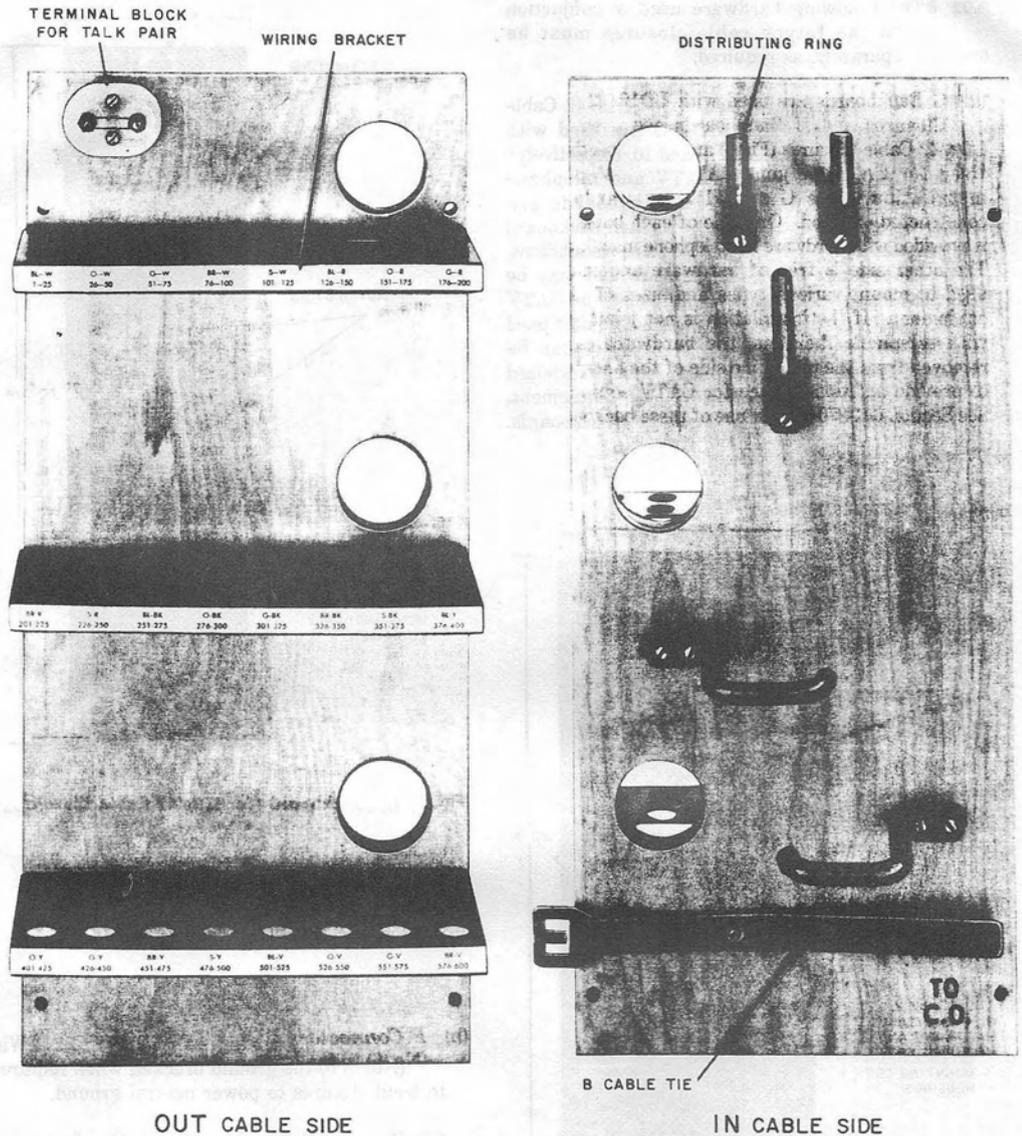

Fig. 8—M Backboard (for LE10/42 Cable Closure)
- 3.01 L Backboards (Fig. 7) and M backboard (Fig. 8) are furnished with LE6/42 and LE10/42 Cable Closures, respectively. These backboards are used to construct control and access points in dedicated plant. The backboards are plywood boards, consisting of B Cable Ties, distributing rings, wiring brackets, and a terminal block for terminating a talk pair. These components are factory assembled. Each backboard has the letters **TO C.O.** stenciled on the **IN** cable side. ♦